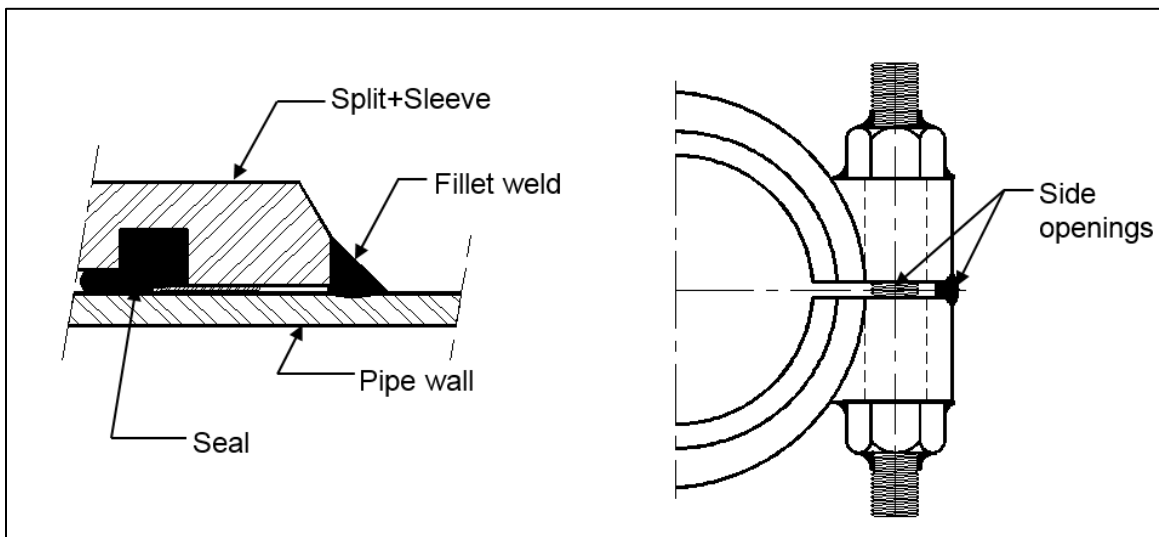

Figure 14
1. Fillet weld ends to pipe. (See Figure 14)